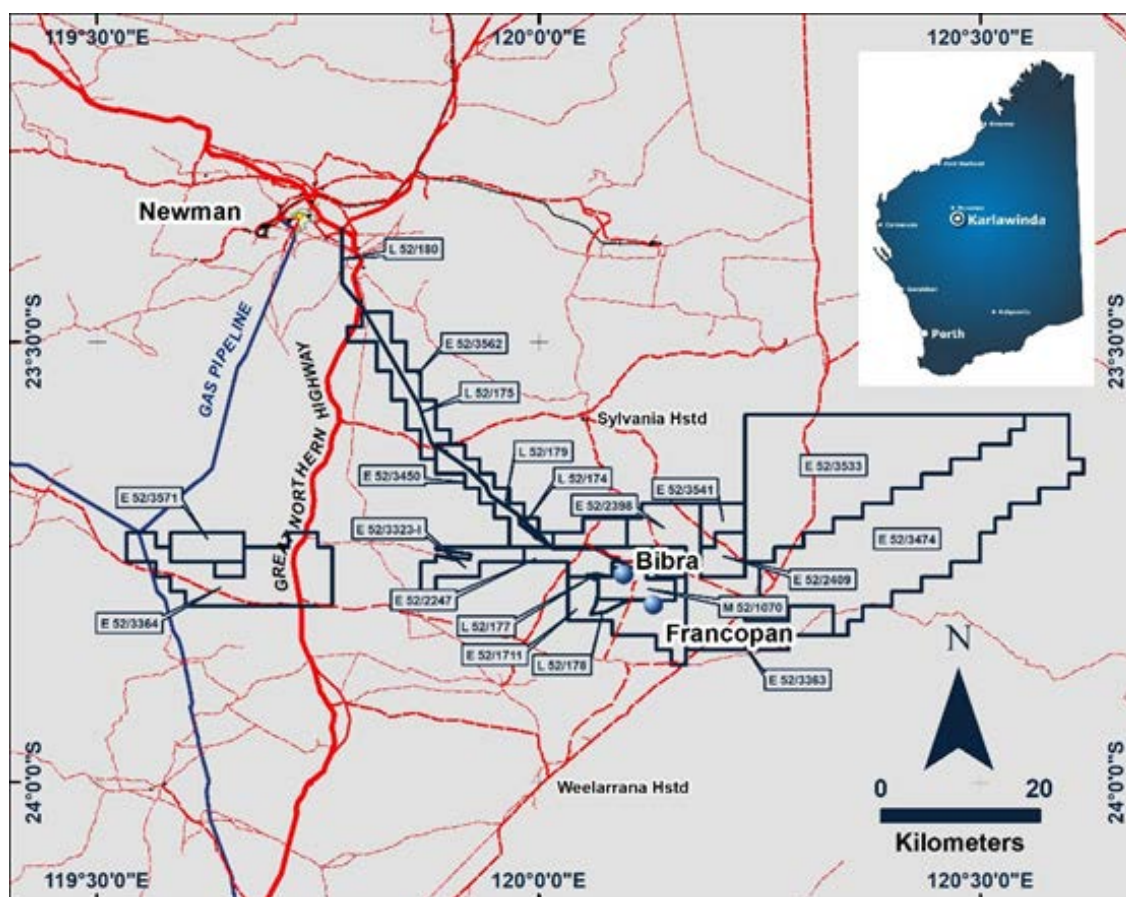

Figure 1: Location Map: Karlawinda Gold Project
Capricorn Metals Limited (ASX: CMM) is pleased to announce that it has delineated a significant new zone of shallow gold mineralisation over a strike length of at least 600m from recent Reverse Circulation (RC) and aircore (AC) drilling at the Tramore prospect, located ~600m south of the current 1.3 million ounce1 Bibra Gold Deposit within its 100%-owned Karlawinda Gold Project in WA (Figure 1)